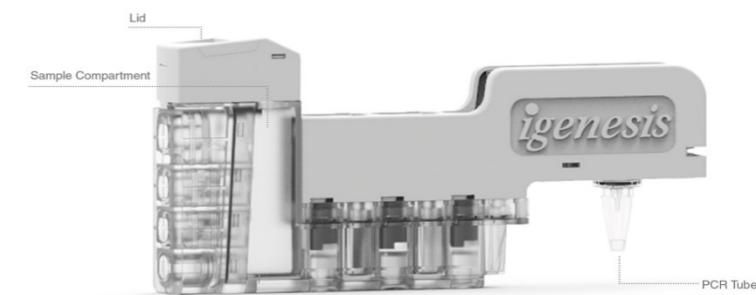

Figure 1 CA6/CA10/CA16/EV71 iCassette (Lateral View)
1.3 Open the lid of the iCassette, and pipette 200 μl of sample or controls to the CA6/CA10/CA16/EV71 iCassette sample compartment as shown in Figure 1. slowly, close the lid tightly.(Note: After the sample is added to the iCassette, the test needs to start running within 30 minutes)